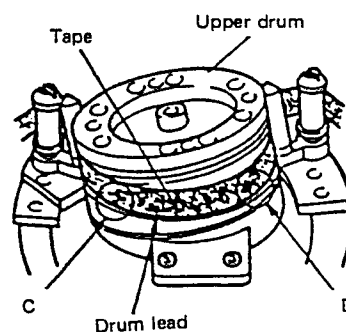

Fig. 24 Drum lead check - 2
4. Observe the tape as it becomes wrapped around drum during loading and as it separates from the drum during unloading. Confirm absence of damage to the tape at points C and D as shown in Fig. 24 and absence of contact noise between head tips and tape edge.